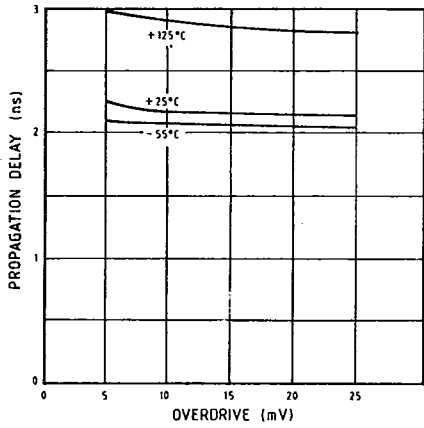

Fig.6 Propagation delay, input to output as a function of overdrive
3. 100mV pulse with -10mV overdrive. See Figs 6 to 8.